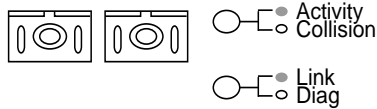

Figure 7: Close-Up of the FX Port LEDs
4. Observe the LEDs for normal switch operation (Figure 7 and Table 1).